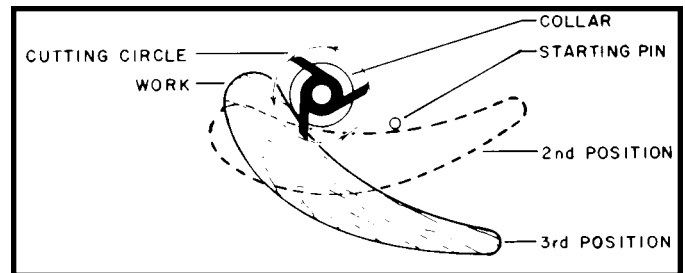

Fig. 47
3. After the cut has been started, the work is swung free of the starting pin and rides only against the collar as shown in the third position Fig. 47. **ALWAYS FEED AGAINST THE ROTATION OF THE CUTTER.**